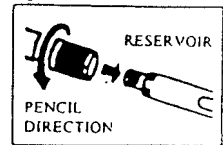

Fig. 3
3. Screw reservoir and pencil part back (fig. 3).